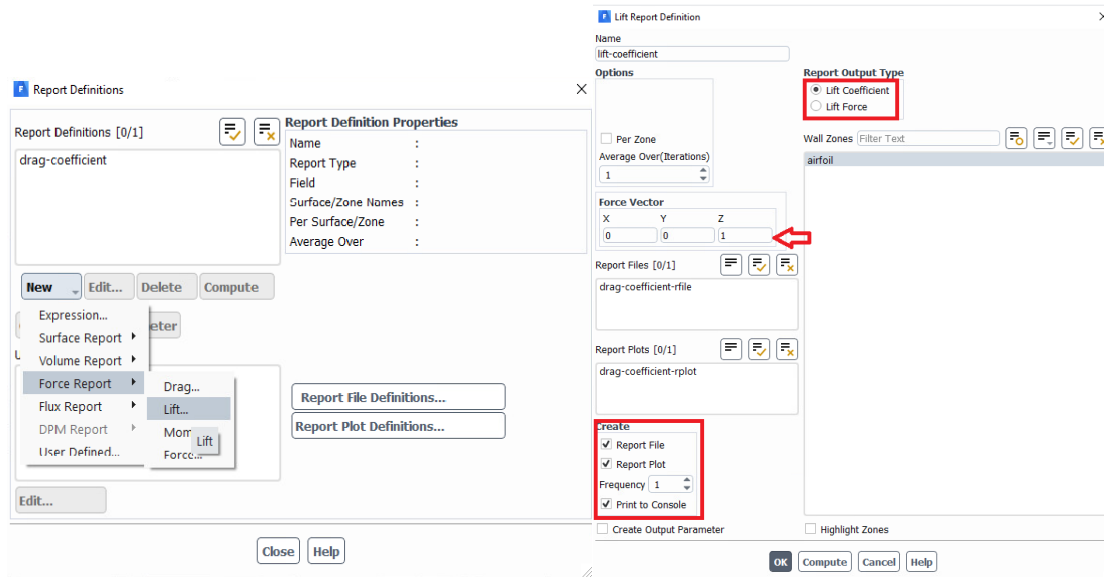

Figure 16. Creating the definition for the lift coefficient report.
3.4.4. Repeat the previous steps to define lift coefficient. Select **NEW > Force Report > Lift**, as shown in Figure 16 (left image). This will open a new popup window called **Lift Report Definition**.
3.4.5. In the **Lift Report Definition** popup window, ensure the following settings are selected, as shown in Figure 16 (right image):